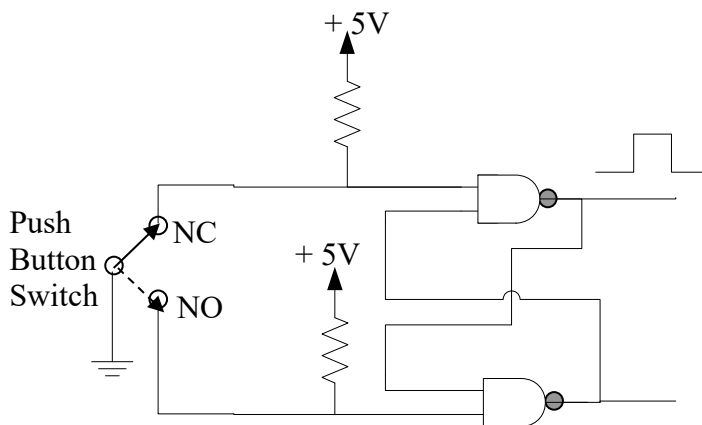

Fig. 1 Manual Clock Circuit
3. Wire the circuit. Use manual clock (circuit of Fig. 1) and the LEDs (circuit of Fig. 2 with value of R chosen such that LED current = 20 mA) to verify that your counter follows the specified sequence. Set the unused states as well and ensure that the next states obtained are as specified.